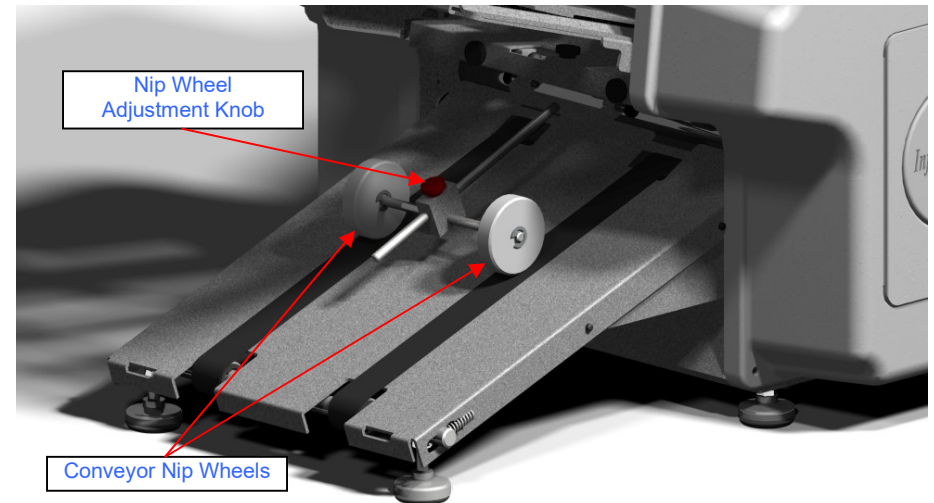

Figure 11: Conveyor Nip Wheel
3. Line up the tips on both sides of the paper stop with the appropriate line on the scale so that the appropriate white line on the scale is just visible [see Figure 11].